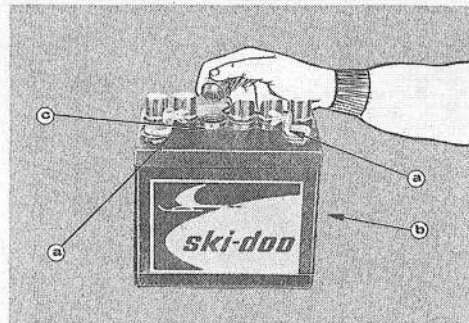

Figure 79
- Disconnect the battery and remove it from the Ski-Doo. See Fig. 79.